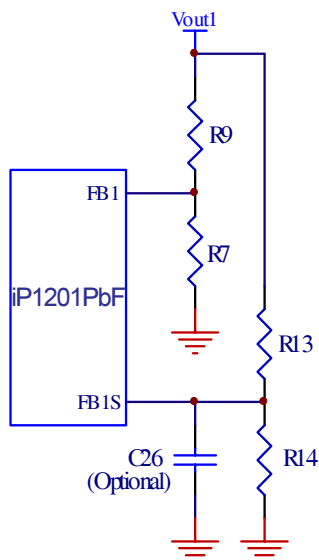

Fig. 19: Typical scheme for output voltage setting
Both outputs of the iP1201PbF. will shut down if either one of the outputs experiences a voltage in the range of 115% of  $V_{OUT}$ . The overvoltage sense pins FB1s and FB2s are connected to the output through voltage dividers,  $R_{13}$  and  $R_{14}$  (Fig. 19), and the trip setpoints are programmed according to equation (1). Separate overvoltage sense pins FB1s and FB2s are provided to protect the power supply output if for some reason the main feedback loop is lost (for instance, loss of feedback resistors). If this redundancy is not required and if Type II control loop compensation scheme is utilized, FB1s and FB2s pins can be connected to FB1 and FB2 pins respectively. An optional 100pF capacitor (C26) is used for delay and filtering purposes. In parallel configuration, FB2s should be connected to FB1s
When selecting output capacitors, it is important to consider the overshoot performance of the power supply. If the amount of capacitance is not adequate, then, when unloading the output, the magnitude of the overshoot due to stored inductor energy, and depending on the speed of the response of the control loop, can exceed the overvoltage trip threshold of the iP1201PbF and can cause undesirable shutdown of the output. The magnitude of the overshoot should be kept below  $1.125V_{OUT}$ . To prevent the overshoot from tripping the output a delay can be added by installing capacitor C26 as shown in Fig.19.
From Fig.19 the transfer function  $H(s)$  of the error amplifier is given by (9):